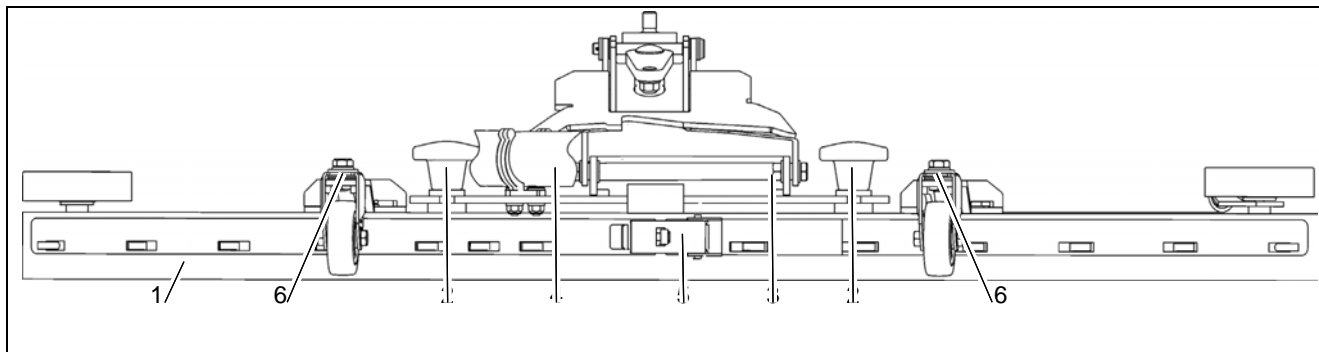

Fig.11
Check the squeegee (Fig. 11/1) daily and clean as necessary.
To clean it lift the squeegee out, pull off the suction hose (Fig. 11/4), loosen the two star-shaped knobs (Fig. 11/2) and remove the squeegee.
Check the inner and outer squeegee blades on the squeegee tool (Fig. 11/1) weekly for signs of wear. The blades can be used fourfold by turning them.
3. Unlock the fastening device (Fig. 11/5) and remove the outer squeegee blade. Turn the blade or install a new one, as necessary. Change the inner blade in the same way.